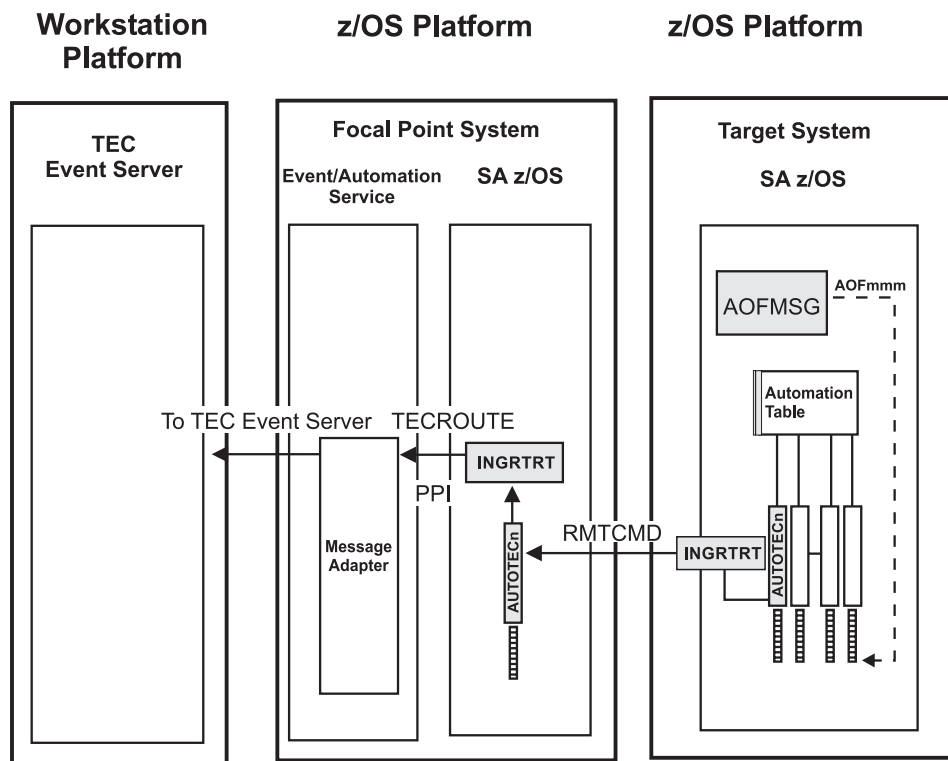

Figure 8. Distributed Configuration: NetView Event/Automation Service Remote to the SA z/OS Source of Messages
- *distributed configuration*: The message adapter or alert adapter is running on an z/OS system different from the one on which SA z/OS is running and issuing messages and alerts. In this scenario, the z/OS system running the adapters must be the SA z/OS automation focal point system. Such a configuration for message forwarding is illustrated in Figure 8 on page 43.